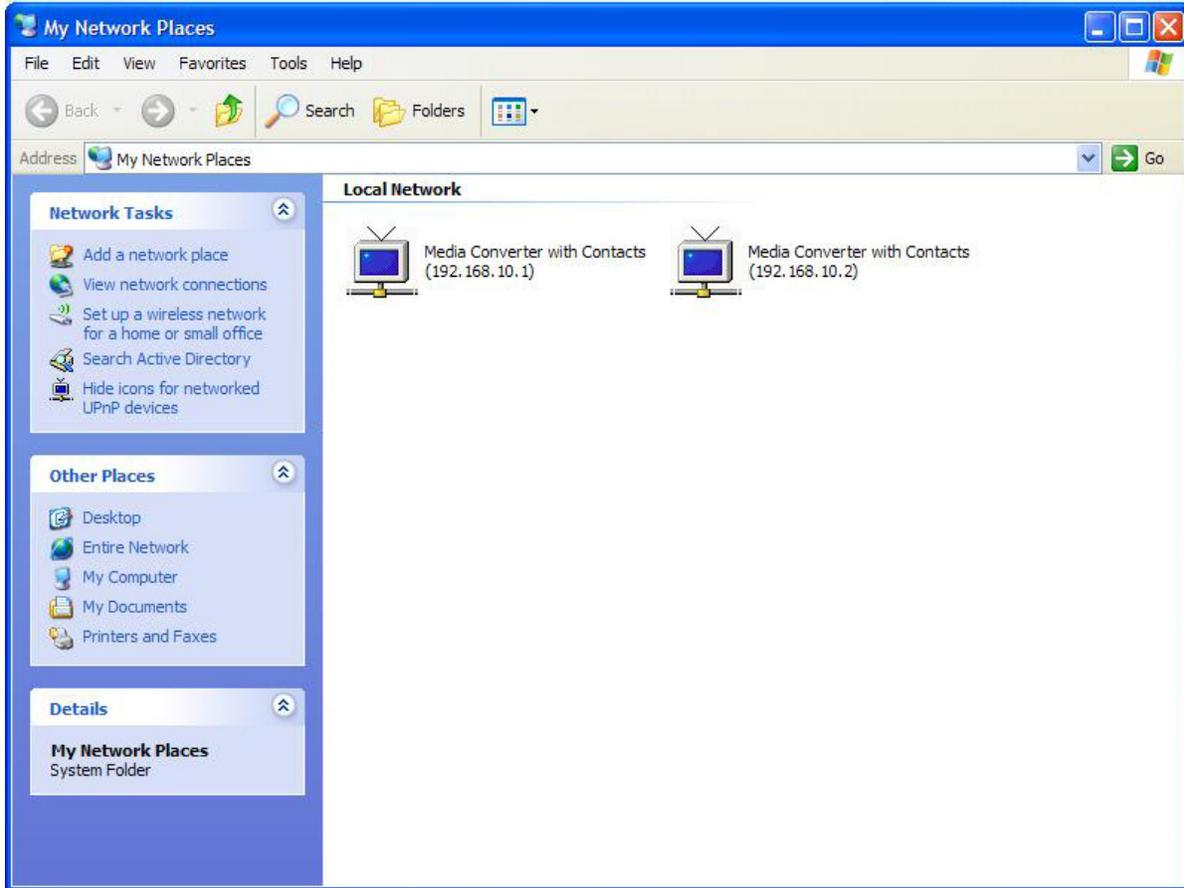

Figure 26 - Windows My Network Places
- › **Media Converter with Contacts (192.168.10.1)** and **Media Converter with Contacts (192.168.10.2)** will appear in the window as shown in Figure 26.